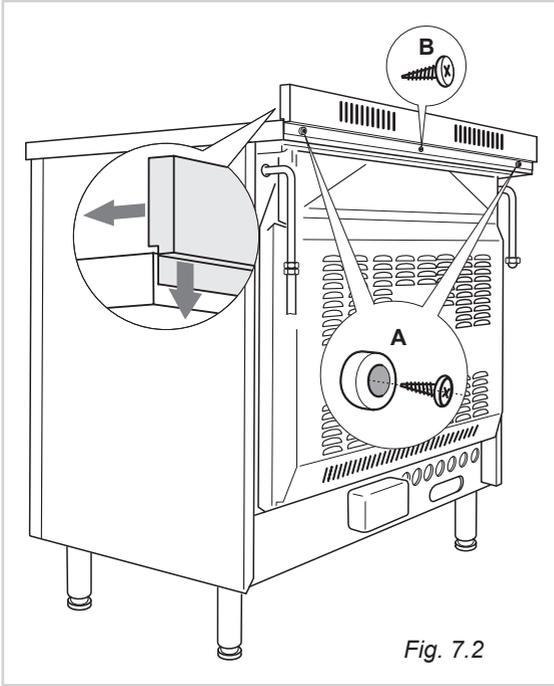

Fig. 7.2
- Assemble the backguard as shown in figure 7.2 and fix it by screwing the central screw “B” and the spacers “A”.